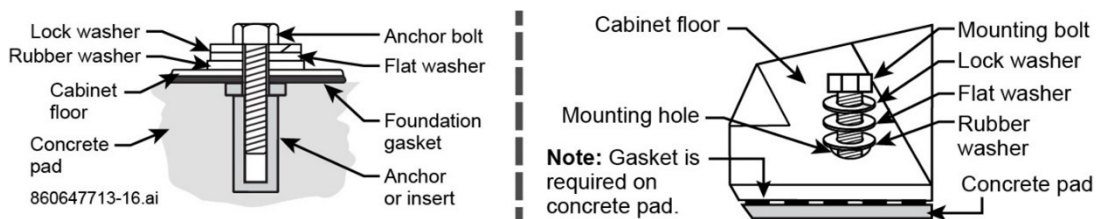

Figure 23. Fastening Cabinet to Concrete Pad
- **Concrete Pad**—Thread bolts with washers into anchors or inserts, 1.5" bolts with 1/2" lock and flat washers, along with the rubber washers, Figure 23. Do not tighten bolts until all are in place.